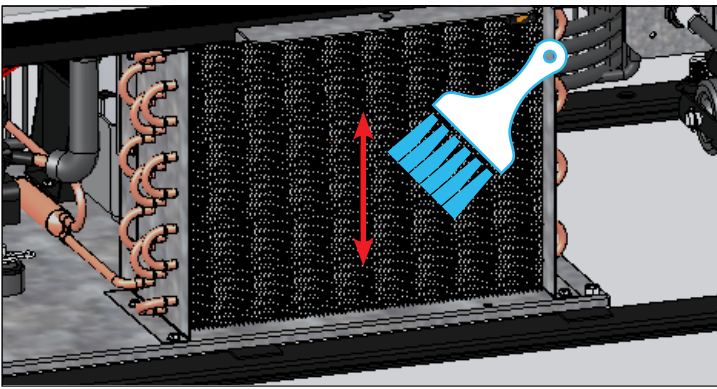

Fig. 3. Never brush across the coil fins.
3. With a stiff bristle brush, carefully clean accumulated dirt from the front condenser coil fins See fig. 3